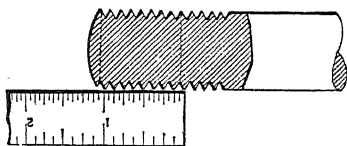
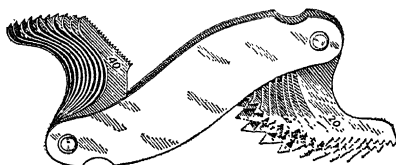

FIG. 185.—Eight threads per inch.
FIG. 186.—Thread-pitch gauge.
6. *Be sure* the gears are right for the pitch required. Many jobs are spoiled by carelessness in this respect. Measure the pitch after the first light cut. This may be done by counting the number for 1 in. or for  $\frac{1}{2}$  in. (Fig. 185) but a screw-pitch gauge (Fig. 186) is quicker and there is less chance of error.